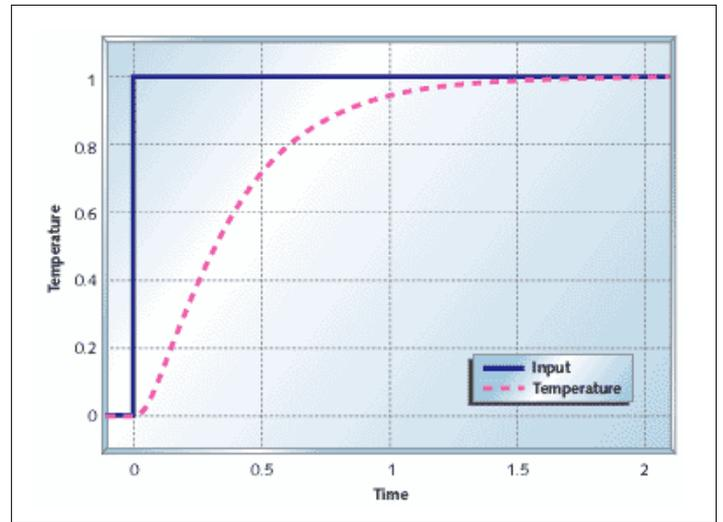

Figure 7
**Figure 7** shows the step response of the system to a change in  $V_d$ . I've used time constants of  $t_1 = 0.1s$  and  $t_2 = 0.3s$ . The response tends to settle out to a constant temperature for a given drive, but it can take a great deal of time doing it. Also, without lots of insulation, thermal systems tend to be very sensitive to outside effects. This effect is not shown in the figure, but we'll be investigating it later in the article.